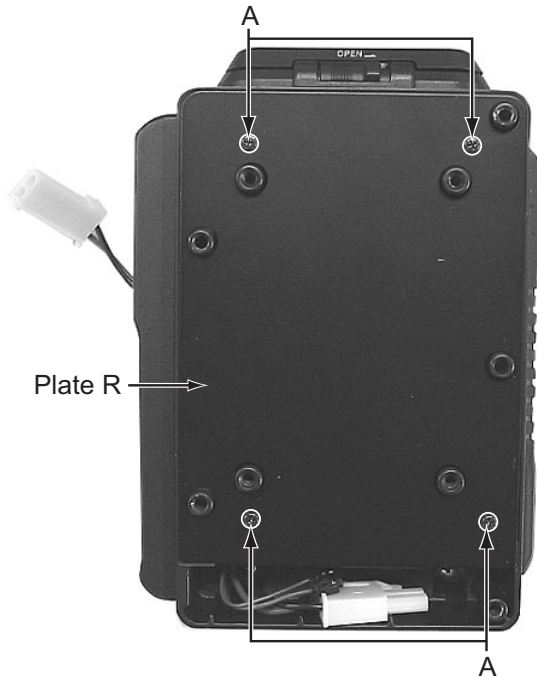
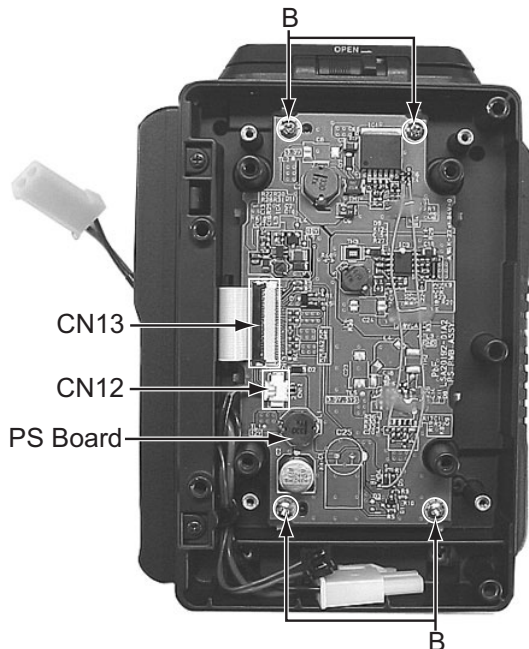

Fig.1
Fig.2
3.1.1 Removing the PS board (See figure 1, figure 2)